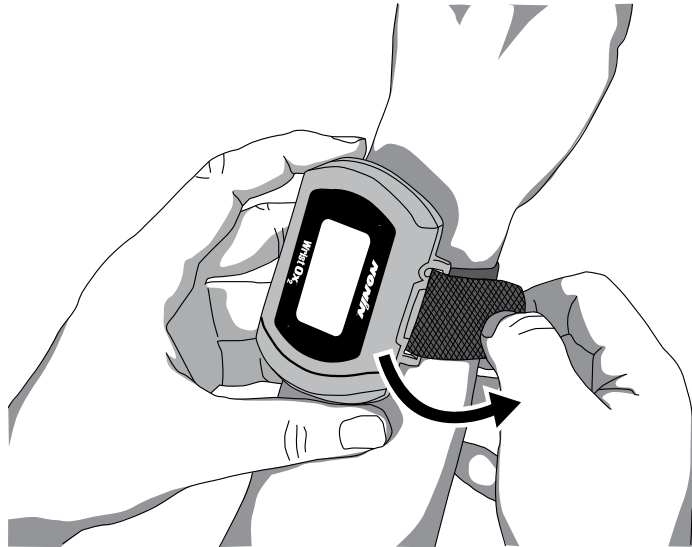

Figure 20: Fasten Single Strap
5. Fold the strap over the strap bar so the fastener attaches to the strap (figure 20).